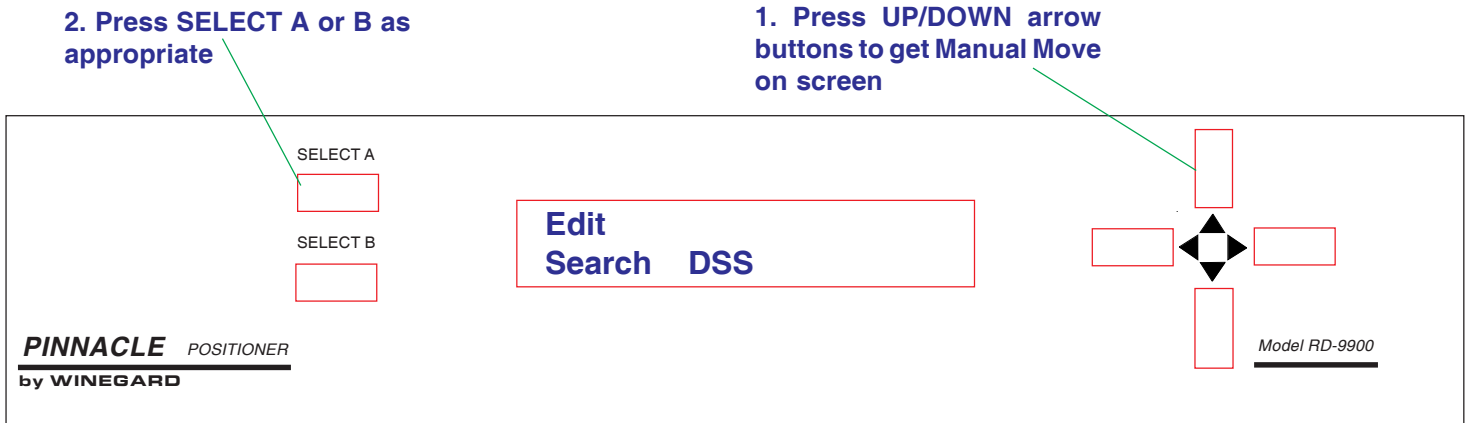

Figure 21
2. Access Edit Menu, press **[UP/DOWN]** arrow buttons until Edit is displayed on positioner display. See Figure 21.
3. Press **[SELECT A or B]** as appropriate to enter Edit Menu. See Figure 21.